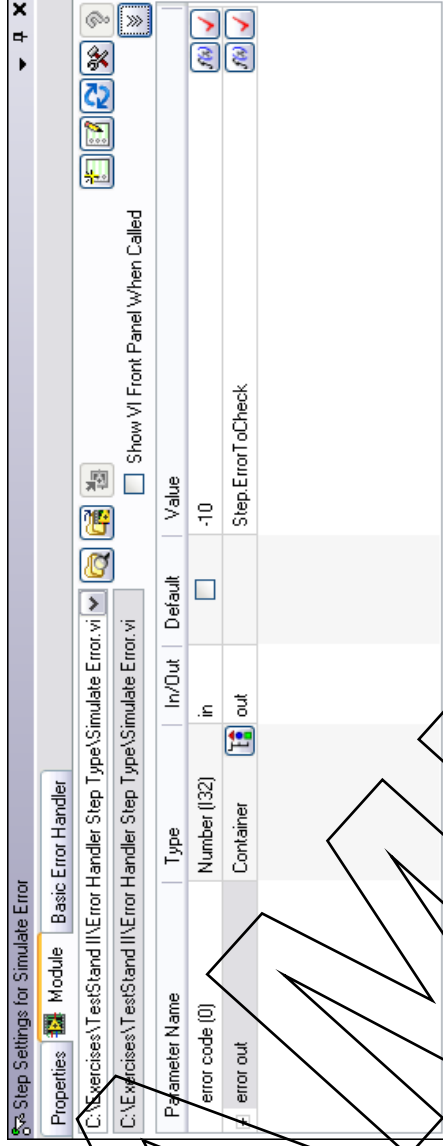

Figure 3-7 Simulate Error Module
- ❑ Configure the Module for the step as shown in Figure 3-7.